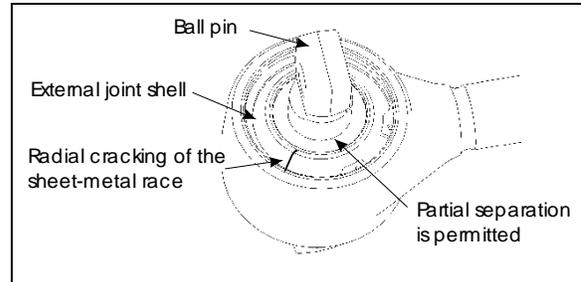

FIGURE 45: BALL JOINTS
7. Place the inner washers (with washer convex side facing the shock absorber rubber bushing) on each shock absorber pin (Fig. 45).